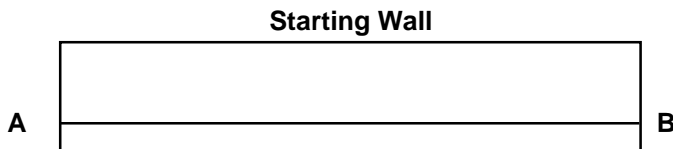

Figure 1
1. When only one working line is needed, establish the line by measuring an equal distance from the starting wall at both ends as in Figure 1. This distance should be multiple of 4 1/2" plus 1/2" for an expansion space.